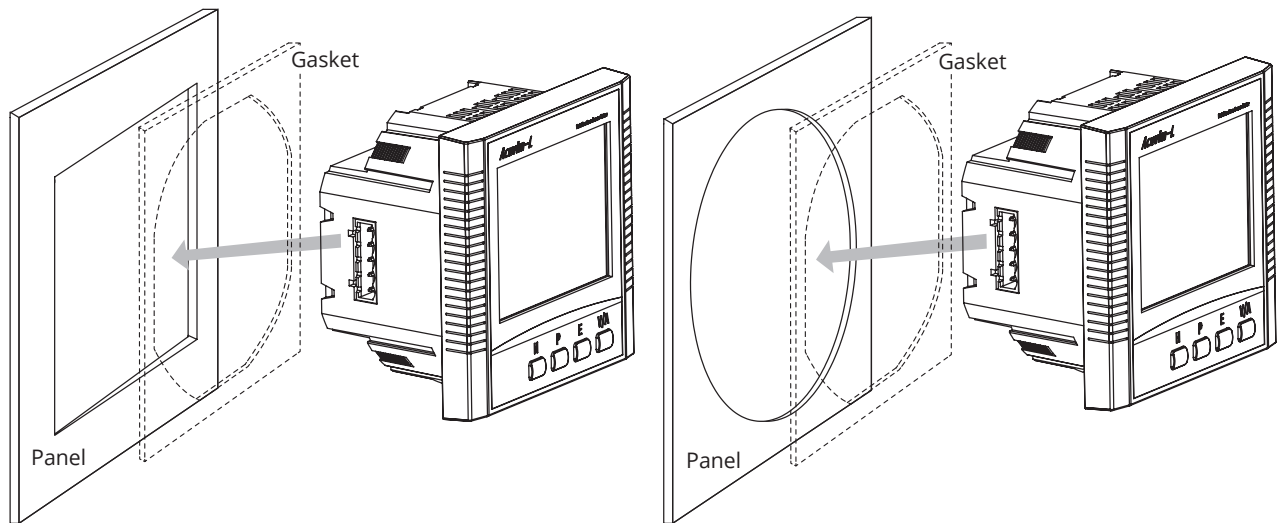

Figure 2-11 Insert the Meter into the Gasket and Panel Opening
1. Cut a square hole or round hole on the panel of the switch gear. The cutting size can be seen in Figure 2-11.